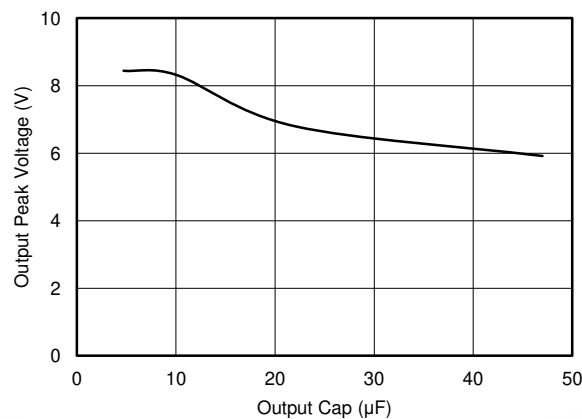

图 9-3.  $V_{OUT}$  Peak Voltage vs  $C_{OUT}$  ( $V_{IN}$  Step From 5 V to 15 V with 1-V/ $\mu$ s Ramp Up Rate)
When  $V_{IN}$  ramp up exceed 7.6 V,  $V_{OUT}$  follows  $V_{IN}$  until the TPS25200 turns off the internal MOSFET after  $t_{(OVLO\_off\_delay)}$ . Since  $t_{(OVLO\_off\_delay)}$  largely depends on the  $V_{IN}$  ramp rate,  $V_{OUT}$  sees some peak voltage. Increasing the output capacitance can lower the output peak voltage as shown in 图 9-3.
- For output capacitance, refer to Figure 9-3, low ESR ceramic cap is recommended.